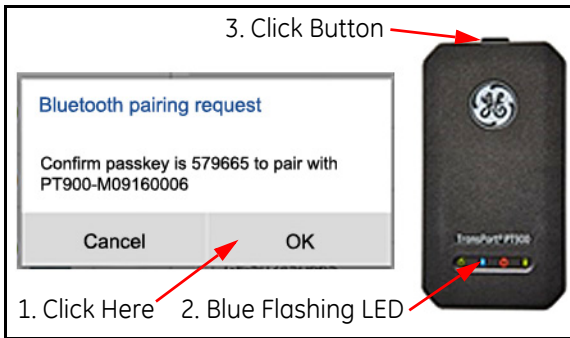

Figure 9: Confirm Pairing
- During the pairing process, PT900 security features require the user to confirm the pairing (see *Figure 9* below). When the Bluetooth pairing request appears on the tablet, a random passkey will be generated. You may ignore the random passkey and click **OK** to continue. Then, confirm that the blue LED on the transmitter is flashing and click the transmitter power button.